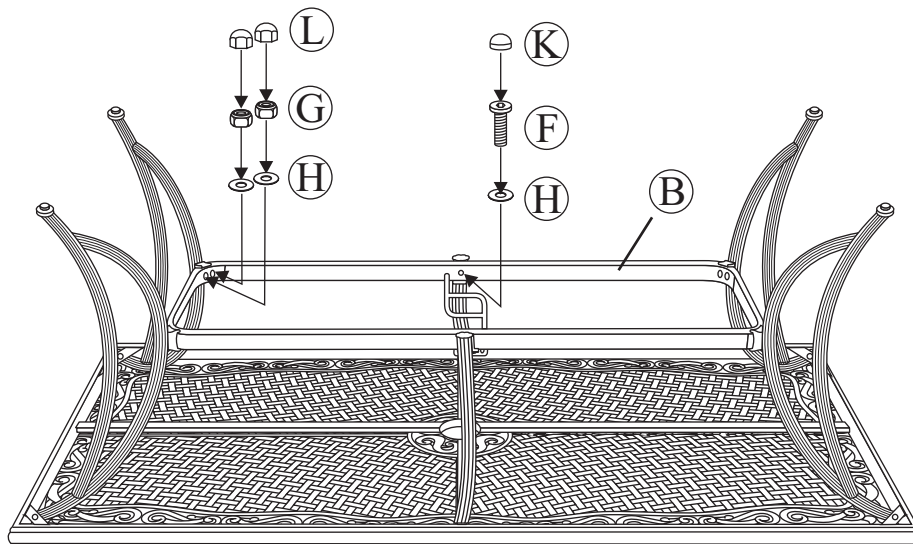

Fig.2
2 **Critical Step: The "U" metal plates must be installed in the proper location.** Read this step and carefully examine. Insert the "U" metal plate, so that the "U" bar and rocker plate are between both sides of the "U" metal plate. Make sure that the holes in the "U" metal plate are completely aligned with the holes in the "U" bar as shown in **Figure 2**. Guide the bolts through the holes on the top side of the "U" metal plate, through the holes in the "U" bar portion of the chair, through the holes in the rocker plate and then, most importantly, through the holes in the bottom side of the "U" metal plate. It is very important that the holes in the bottom portion of the "U" metal plate be placed directly beneath the holes in the rocker plate. Add a spring washer and a nut to each bolt as shown in **Figure 2**. **Hand tighten nuts 3-4 revolutions only.** Repeat the same procedure on the other side.
- 2 Attach a leg to the leg connector bracket by carefully guiding the bolts already in place on the table legs (each leg has two bolts) through the holes in the leg connector bracket. Add a washer and a nut to the end of each bolt as shown in Fig. 2. **Hand tighten only.** Repeat on the other three legs.
Attach a leg to the leg connector bracket by carefully guiding the bolts already in place on the table legs (each leg has two bolts) through the holes in the leg connector bracket. Add a washer and a nut to the end of each bolt as shown in **Fig. 2**. **Hand tighten only**. Repeat on the other three legs. Attach topside support to leg connector bracket by using a 1/4"x30 mm bolt and a washer as shown in **Fig. 2**. **Hand tighten only**. Repeat for the other topside support.